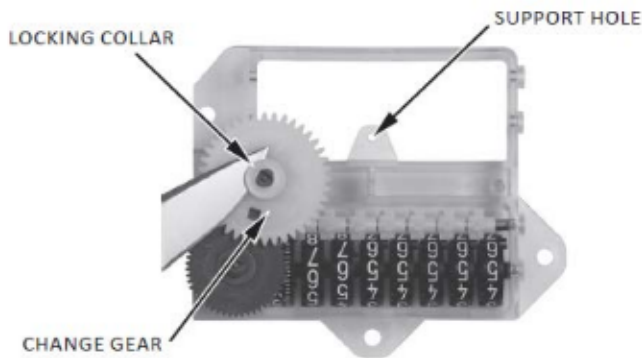

Figure 14. Change gear removal
7. Transfer the change gear from the damaged index to the replacement [Figures 14 and 15].
- ii) Transfer the change gear from the CTR index to the ID gearing and index assembly [Figure 14 and 20].
- (1) Pry the change gear's locking collar off with a knife blade or other similar object.
- (2) Unscrew the change gear from the CTR index.
- (3) Attach the change gear to the middle gear on the back side of the ID gearing and index assembly.
- (4) Reinstall locking collar to retain the change gear.